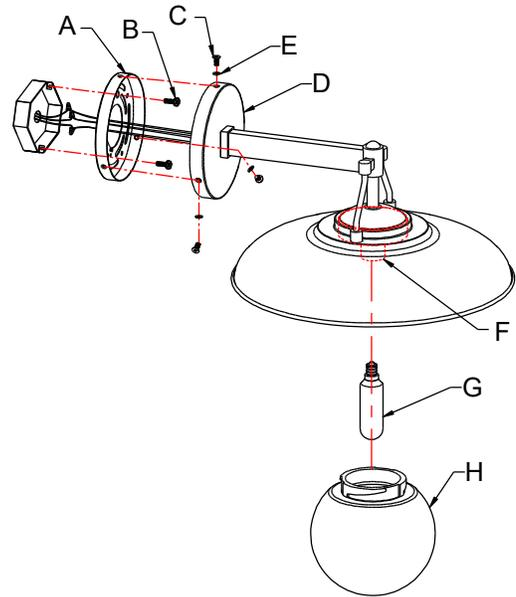

Fig. 2
CONNECTING THE WIRES (Fig. 2)
4. Connect the electrical wires as shown in figure 2, making sure that all wire connectors are secured. If your junction box has a ground wire (green or bare copper), connect fixture's ground wire to it. Otherwise, connect fixture's ground wire directly to mounting plate (A) using green screw provided.